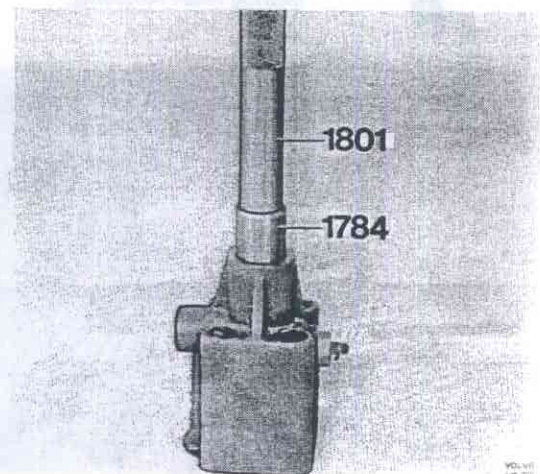

Fig. 43-78. Driving out bushing and seal
3. Knock out the bushing 4 and seal 5 with 4090, Fig. 43-78.